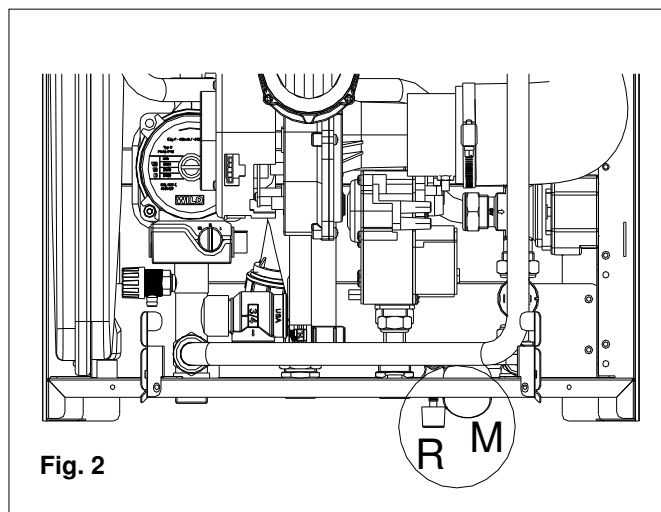

Fig. 2
- Open the filling tap **R** (fig. 2);
- Use the pressure gauge **M** (fig. 2) to check that the system pressure reaches 1 bar and that the code H2O does NOT appear on the control panel display (see 2.7 section 'Control Panel');
- turn the system drain tap R (see fig. 2) and use a container to collect the water that runs out;